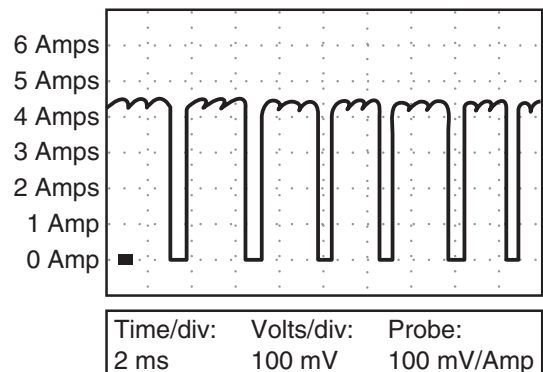

Figure 6–40 An open winding within a motor. © Cengage Learning 2012
- Poorly defined shape of the waveform caused by brush wear (Figure 6–41). As the brushes wear, their carbon material is deposited on the armature segments, decreasing the current flow, but it is also deposited between the armature segments, increasing the current flow when it should be further decreased. Ultimately, the high and low current peaks appear to be “clipped.”